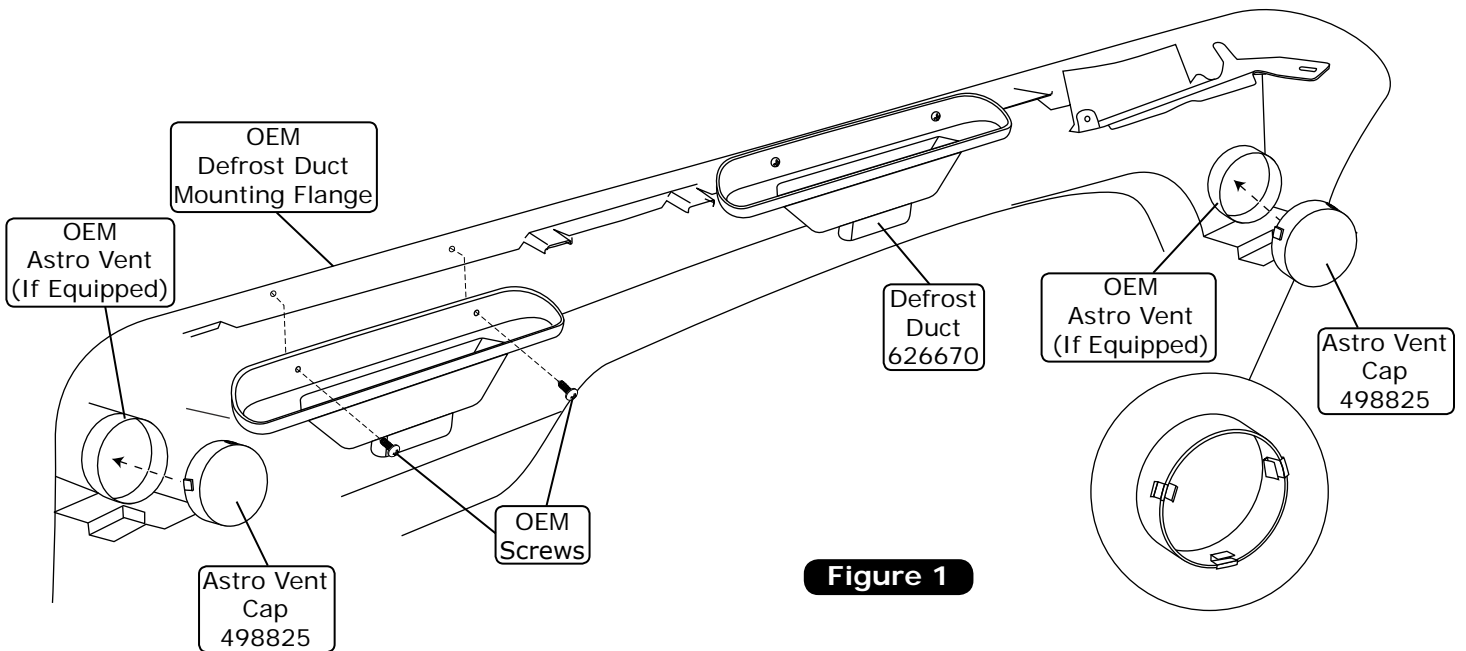

Figure 1
2. If the vehicle is equipped with astro vents, install the astro vent caps as shown in Figure 1, below.